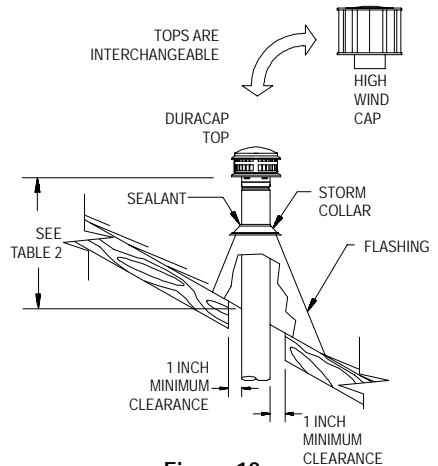

Figure 12
10. Terminations. Where the Pipe Sections pass through the roof, a hole must be cut to provide a minimum clearance (air space) of 1 inch between the Pipe and construction materials. Straight lengths of pipe are run up above the roof. (see **table 2**) A Roof Flashing is placed down over the pipe, and adjusted so it fits tightly against the roof, with the Pipe Section held in a position maintaining the 1 inch minimum clearance from combustibles. The Flashing is then nailed to the roof. The roofing material (shingles, asphalt paper, etc.) should overlap the top edge (uphill side) of the Flashing. A non-hardening sealant should be used around the edges of the flashing base where it meets the roof, as shown in **Figure 12**. Non-hardening sealant is placed around the joint between the Flashing and the vertical Pipe Section and the Storm Collar is then placed over this joint, to make a watertight seal. Add sufficient Pipe Sections to attain the height specified in **Table 2** (see **next page**). To connect the Top to the pipe, hold Top by its collar, slide collar over locking lugs of pipe, and twist-lock clockwise. Tops of diameters greater than 16 inches do not twist-lock, but are affixed